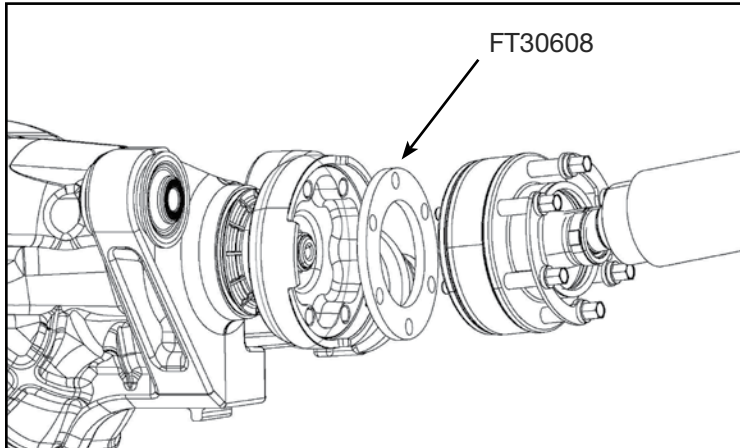

FIGURE 29 - STEP 27
27. When reinstalling the front drive shaft. Install FT30608 (Driveshaft spacer) with the factory hardware and torque to 35 ft-lbs. **SEE FIGURE 29**